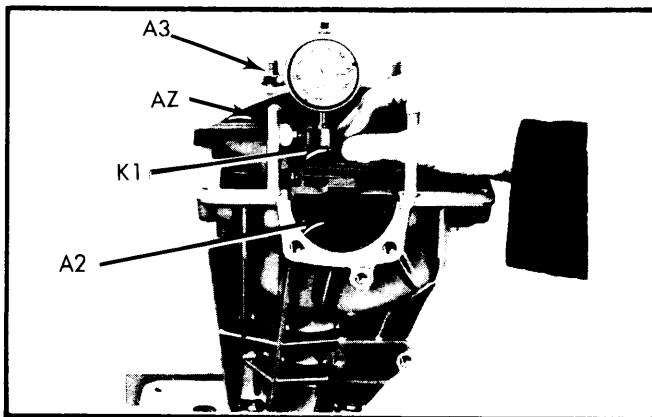

Fig. 14 Measuring Drive Pinion Installed Depth
5) Install special tool AZ (for measuring pinion depth) into front half of housing and hold in position by means of bridge clamp A3. See Fig. 14. Tighten nuts of clamp to 7.2 ft. lbs. (1.0 mkg). Equalize distance between bridge pads and housing on both sides by using feeler gauges. Free feeler assembly A2 and ensure there is no contact with drive pinion.